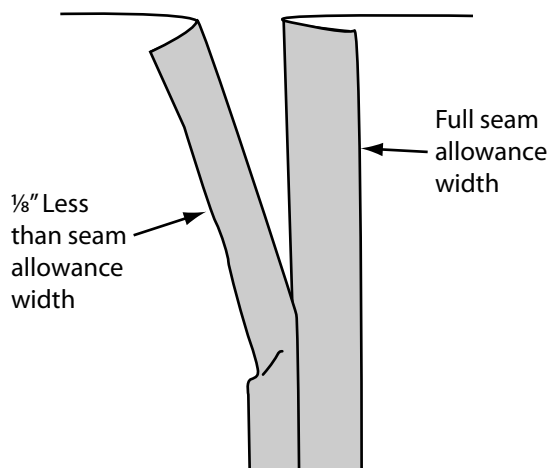

Figure 8
- c. On the left seam allowance (the underlap), re-press seam allowance back ¼ inch less than the full seam allowance width, using first crease line as a guide. This should extend behind the placket opening slightly. (Figure 8)